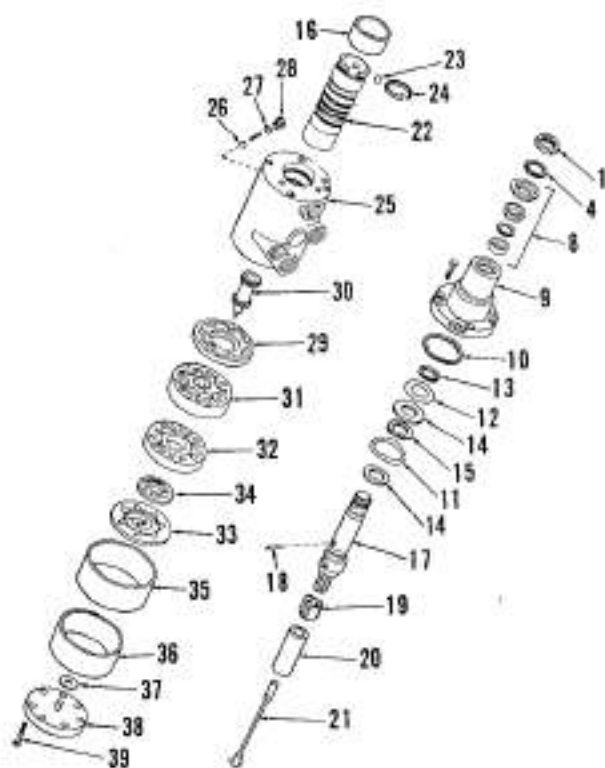

Fig. 27—Exploded view of steering control valve assembly (hydrostatic hand pump) used on standard MF245 models.
23. OVERHAUL. All MF245 models except Orchard are equipped with the hydrostatic hand pump shown exploded in Fig. 27. The valve spool (22) and body (25) are available only as a matched set.
Before reassembling, wash all parts in clean solvent and air dry. All parts, unless otherwise indicated, are installed dry. Install recirculating ball (26)—Fig. 27) and plug (28) with new "O" ring (27) in valve body and tighten plug to a torque of 14-19 N·m (10-14 ft.-lbs.). Clamp fitting (installed in valve body port) in a vise so top end of valve body is facing upward. Install thrust washer (14), thrust bearing (15), second thrust washer (14) and snap ring (13) on input shaft (17).